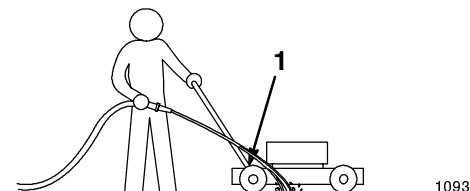

Figure 16
3. Hold the running garden hose at handle level and direct the water to flow on the ground just in front of the right rear tire (Fig. 16).